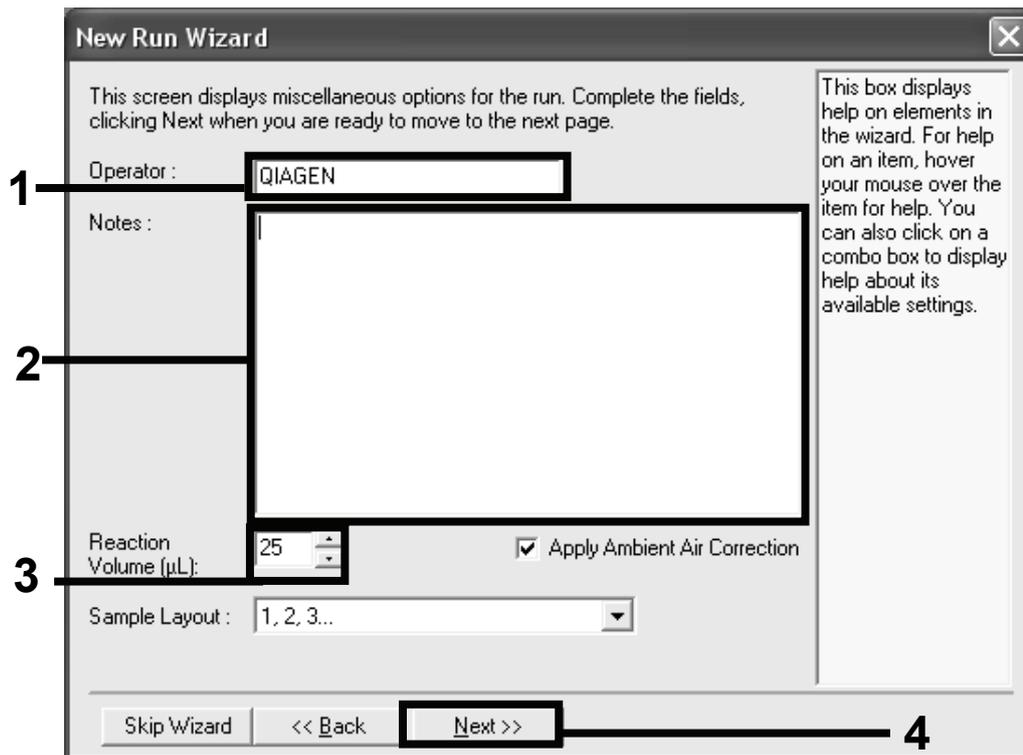

Figure 2. Setting the general assay parameters.
9. Enter the name of the operator. Add any notes and enter the reaction volume as 25. Ensure that "Sample Layout" reads "1,2,3..." and "Apply Ambient Air Correction" is selected. Click "Next" (Figure 2).